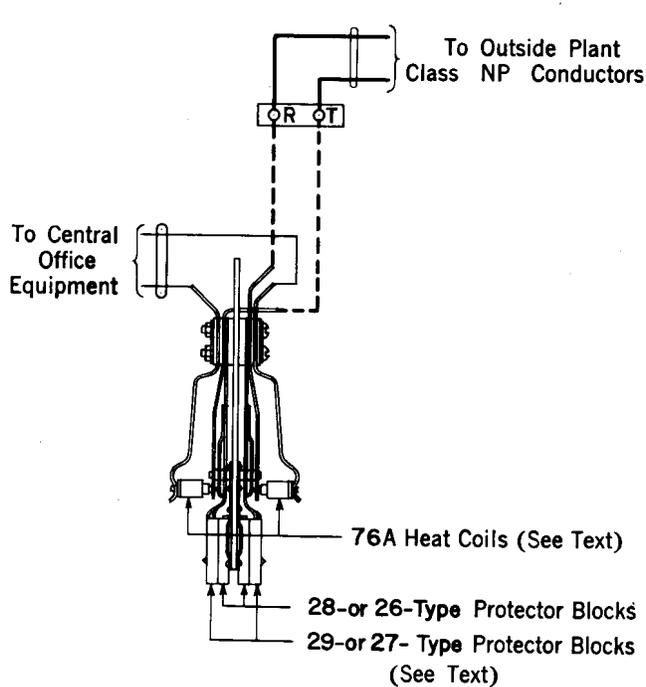

Fig. 8—Class NP Conductors—Connections
6.16 It is not necessary to use protectors for terminating NP conductors (Fig. 8), unless protector mountings are permanently connected to central office circuits or protector mountings are used to facilitate opening the line. Dummy protector blocks and dummy heat coils or soldered straps may be used, provided conductors of all one class are connected to protectors in orderly groups. Conductors of various classes connected to protectors at random may cause the inadvertent use of dummy equipment or straps on circuits requiring heat coil or protector block protection or both.